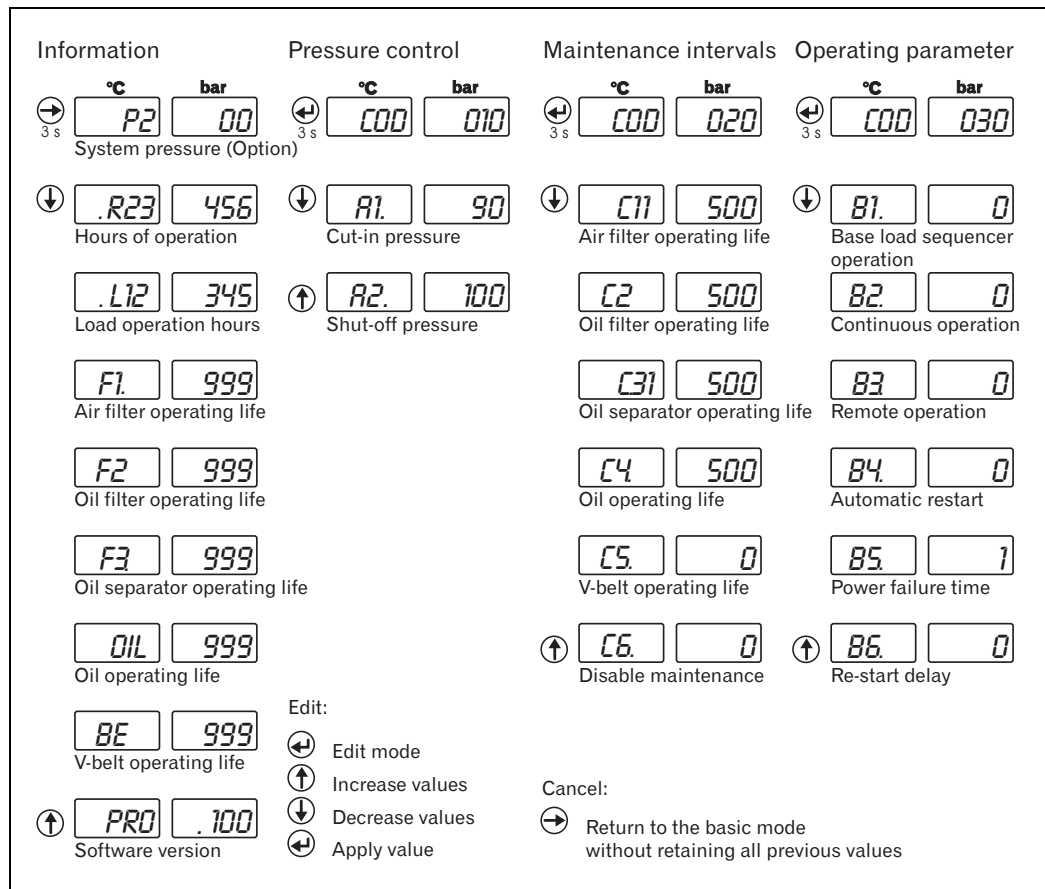

Fig. 1: Menu structure, customer menu
- Close cut-off valve at compressed air outlet 25 (see fig. 1: component overview).
- Unscrew oil filler neck 18 (see fig. 1: Component overview) by approx. 1 turn to check whether pressure has been released completely.
- Check oil level through oil gauge 17 (see fig. 1: component overview).
- Blow compressed air through the cooling fins of the oil cooler 27 and of the compressed-air aftercooler 26 (see fig. 1: Component overview) from the inside of the machine until dust and deposits have disappeared.
The safety valve 11 (see fig. 1: Component overview) is secured with a seal which must not be removed.